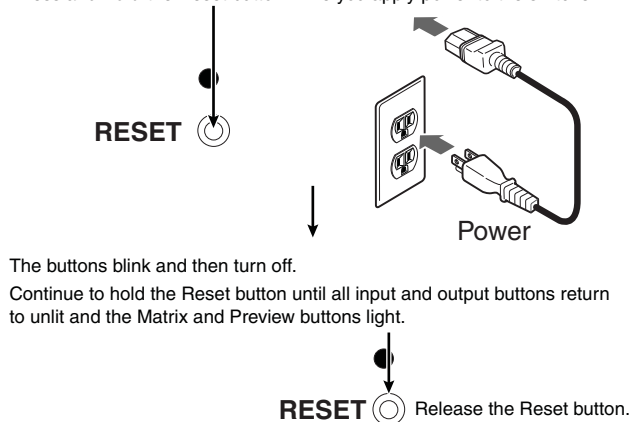

Figure 3-56 — Hard reset
2. Press and **hold in** the Reset button on the rear panel **while** you apply AC power to the switcher (figure 3-56).